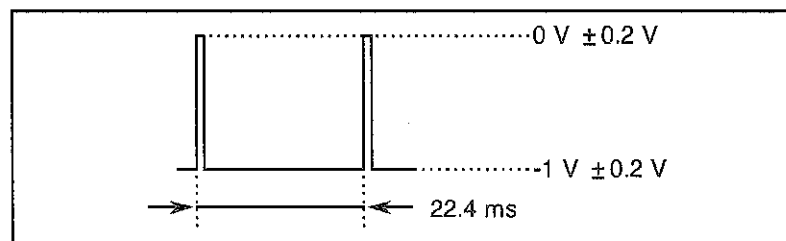

Figure 8-6 PATTERN TRIGGER Output Waveform
- (9) Normal when the waveform has the cycle as shown in Figure 8-6.